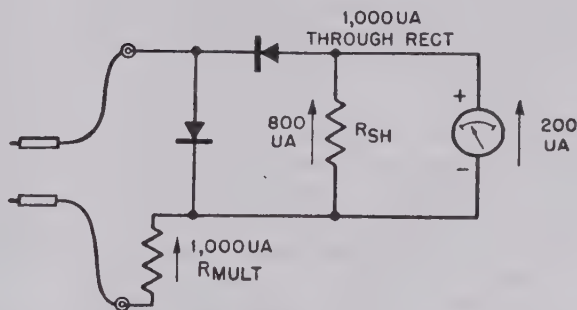

Figure 27. Shunt across meter movement increases current through rectifier but decreases meter ohms-per-volt rating.
- (1) The forward resistance of a copper-oxide rectifier varies with the amount of current flowing through the rectifier, and also varies somewhat in different rectifier units. To compensate for this, the meter circuit must be properly designed or the calibration of the meter will be upset.
- (2) Since the forward resistance can vary from 2,000 to 500 ohms as current through the rectifier varies from .1 ma to 1 ma, the calibration of the meter is nonlinear. When a shunt is placed across the meter movement, and both shunt and movement are placed in series with the rectifier (fig. 27) this difficulty is partially overcome.